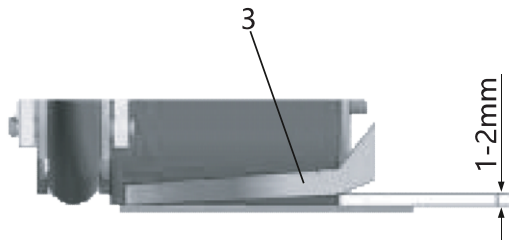

Figure 5
- 1、 The distance between hot air nozzle and ground should be shown as figure 5